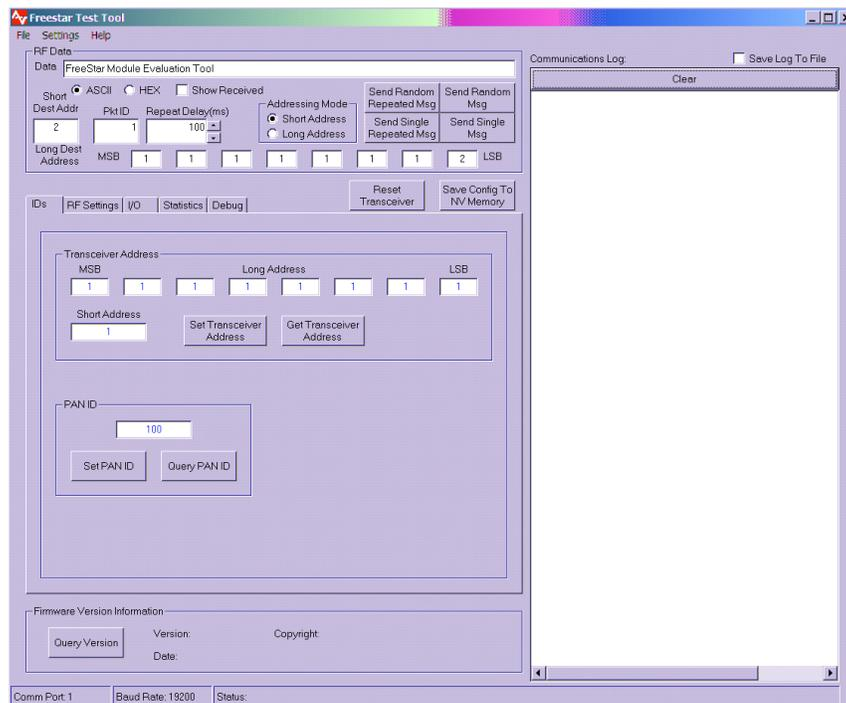

Figure 4-1. Evaluation Software - Main Screen
The FreeStar evaluation software was designed to give the developer an ability to quickly test the features built into the FreeStar module. The evaluation software is described in the following sections. A screen shot of the evaluation software is shown in Figure 4-1. Developers please refer to chapter 5 for information on building custom applications for use on the FreeStar module.
4.2.1 *Main Section of Test Tool (Upper left portion of the Test Tool as shown in Fig 4-1)*
4.2.2 Setting Device Identification (See Figure 4-1)